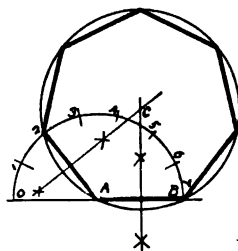

Fig. 59.
**Problem 11.** To draw a polygon of any number of sides having one side given. (Fig. 59). Let AB be the given side. With it as the radius draw the semi-circle OB which should be divided into as many equal parts as there are sides in the required polygon, in this case seven. If